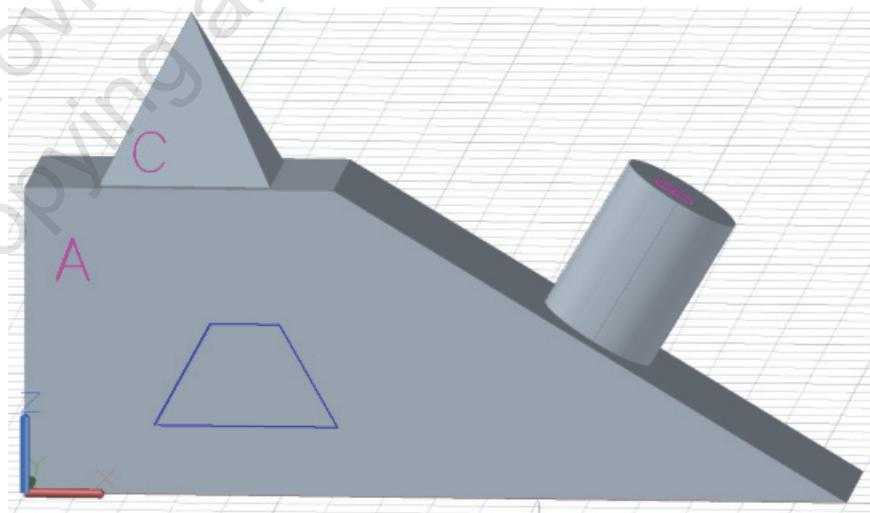

Figure 1–35
5. In the *Home tab>Draw panel*, click (Line). Hover over Face A until it highlights and add several lines to the surface, similar to those shown in Figure 1–35.
6. In the *Home tab>Draw panel*, click  (Circle). Hover over Face B until it highlights. Draw a small circle anywhere on Face B, similar to that shown in Figure 1–36.